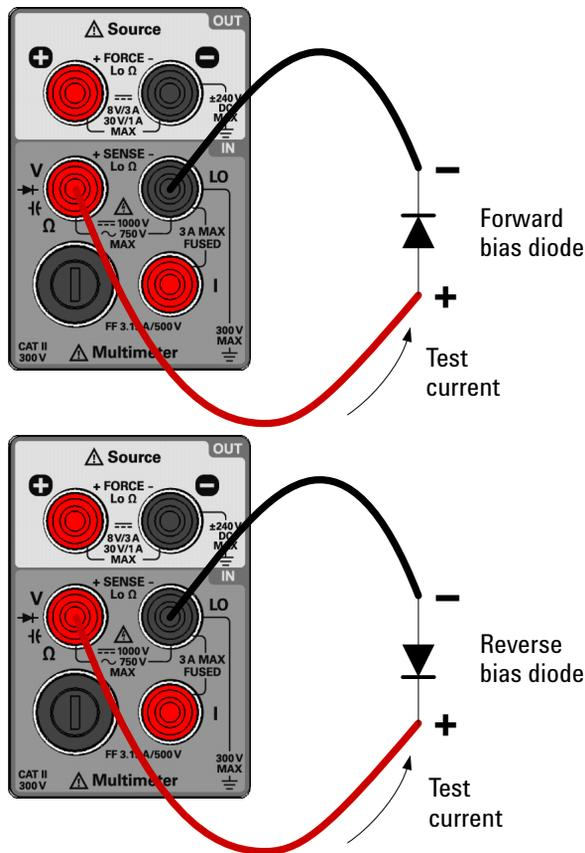

Figure 2-9 Terminal connections for diode tests
- 3 Connect the other end of the red test lead to the positive terminal (anode) of the diode and the black test lead to the negative terminal (cathode). Refer to Figure 2-9 on page 51.
- 5 Reverse the probes and measure the voltage across the diode again (refer to Figure 2-9 on page 51). Assess the diode according to the following guidelines: